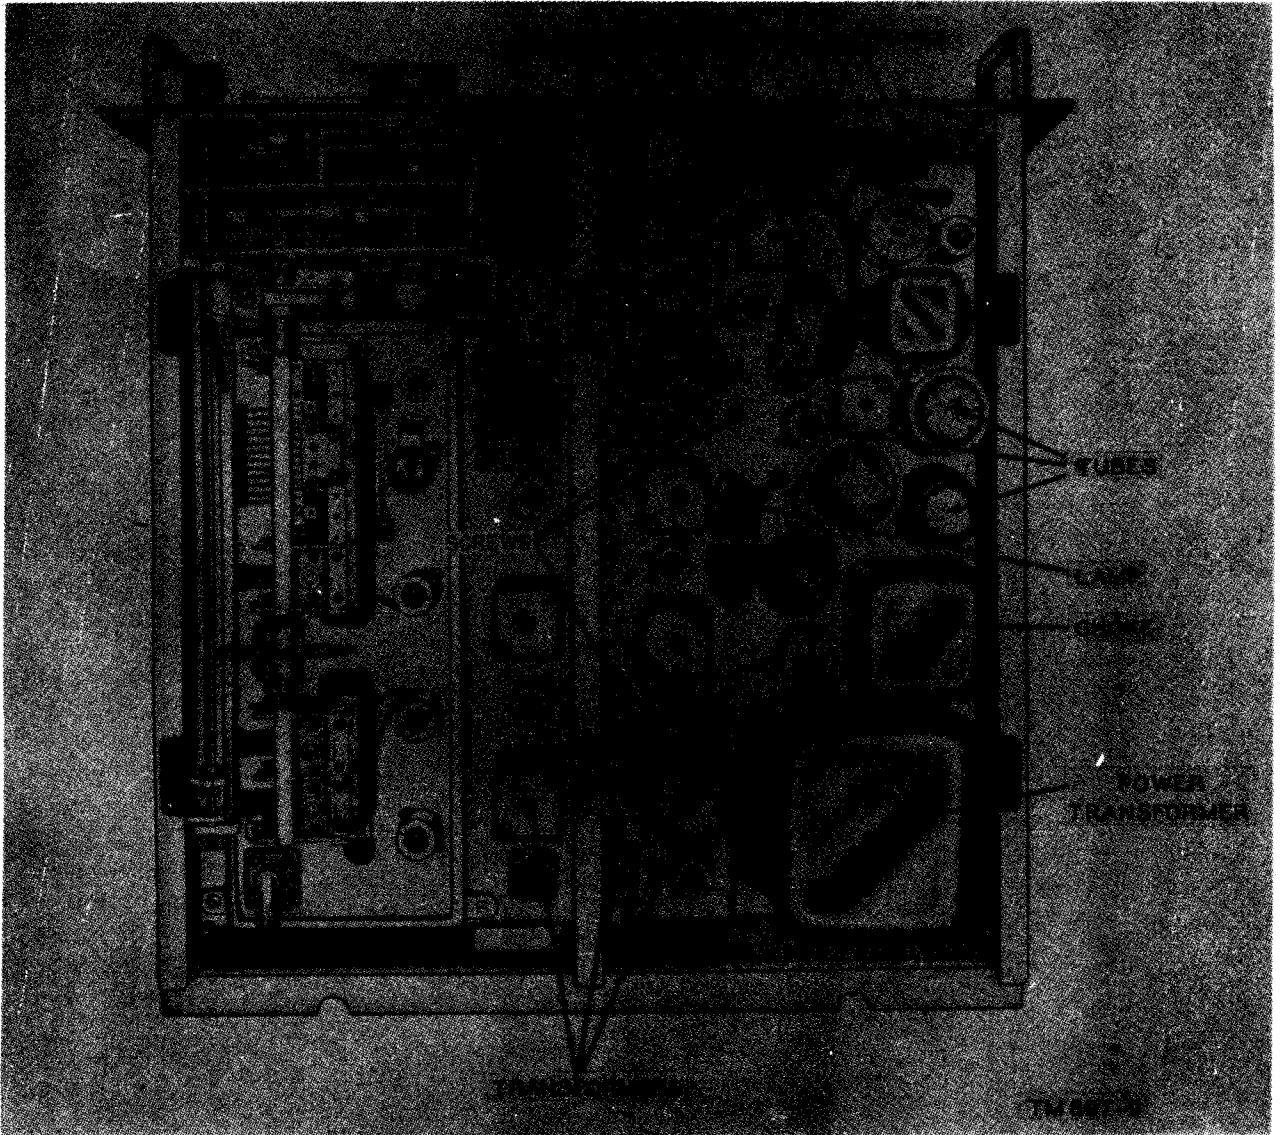

Figure 32. Radio Receiver R-274/FRR, r-f chassis, bottom view.
- (3) Remove the four No. 8-32 screws from the edge of the subchassis.
- (4) Slide the subchassis upward and, at the same time, feed the coaxial cables through the holes.
- (5) Replace the subchassis by reversing the above procedure.
*e. R-F Turret (fig. 32).* The removal of the turret from the chassis is easily accomplished by two men. Take out all the individual coil sections before removing the turret; this will prevent serious damage to these sections. The turret is fastened to a shaft at the front and rear. Remove the turret from the chassis as follows:
- (1) Loosen the two setscrews on the dial mask drive gear which is fastened on the extension shaft near the front panel.
- (2) Loosen all the setscrews on the nylon shaft coupling.
- (3) Pull the knob and extension shaft out from the front panel.
- (4) Loosen the end play adjustment nut on the shaft bushing (unscrew toward the front of the chassis).
- (5) Rotate the turret by hand until it is possible to loosen the two holding steel screws at each end of the turret shaft. Remove these screws.
- (6) While one man holds the turret to prevent the stationary contacts from being bent or broken, the second man should tap the shaft until it protrudes from the back of the chassis. The detent spring will have a tendency to push the turret away from the chassis. The turret should be held in the normal position until the shaft is completely removed from the back of the chassis.
- (7) Lift the turret from the chassis, taking care not to bump it against any of the chassis components.